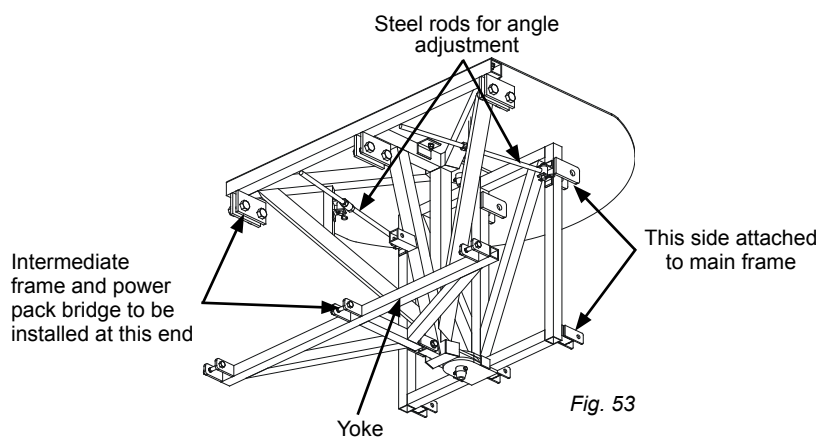

Fig. 53
- 2 - Bolt the bottom and top part of the swivel bridge to the main frame. Using the steel rods, position the swivel bridge at the angle required by the setup (fig. 53).